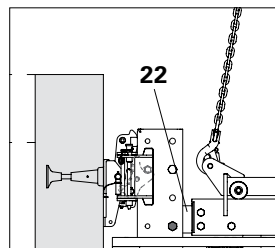

Fig. C3.03a
4. Attach Crossbeam (**21**) with Crossbeam Head RCS/VARIO (**22**) in 4th hole $\varnothing 26$ of the Climbing Rail using bolt M24 x 130-8.8 (**108**). (Fig. C3.03a)